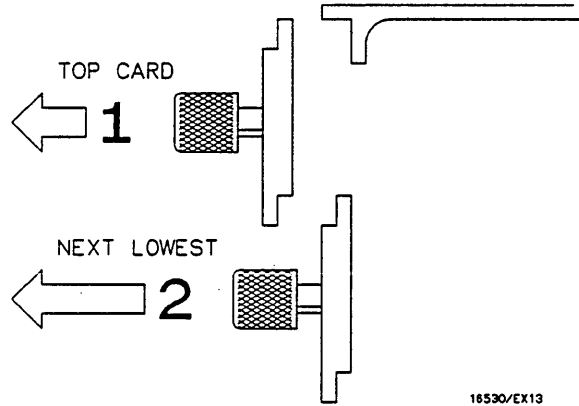

Figure 6-19. Endplate Overhang
3. Starting from the top, begin pulling all filler panel(s) and card(s) out half way. See figure 6-19.